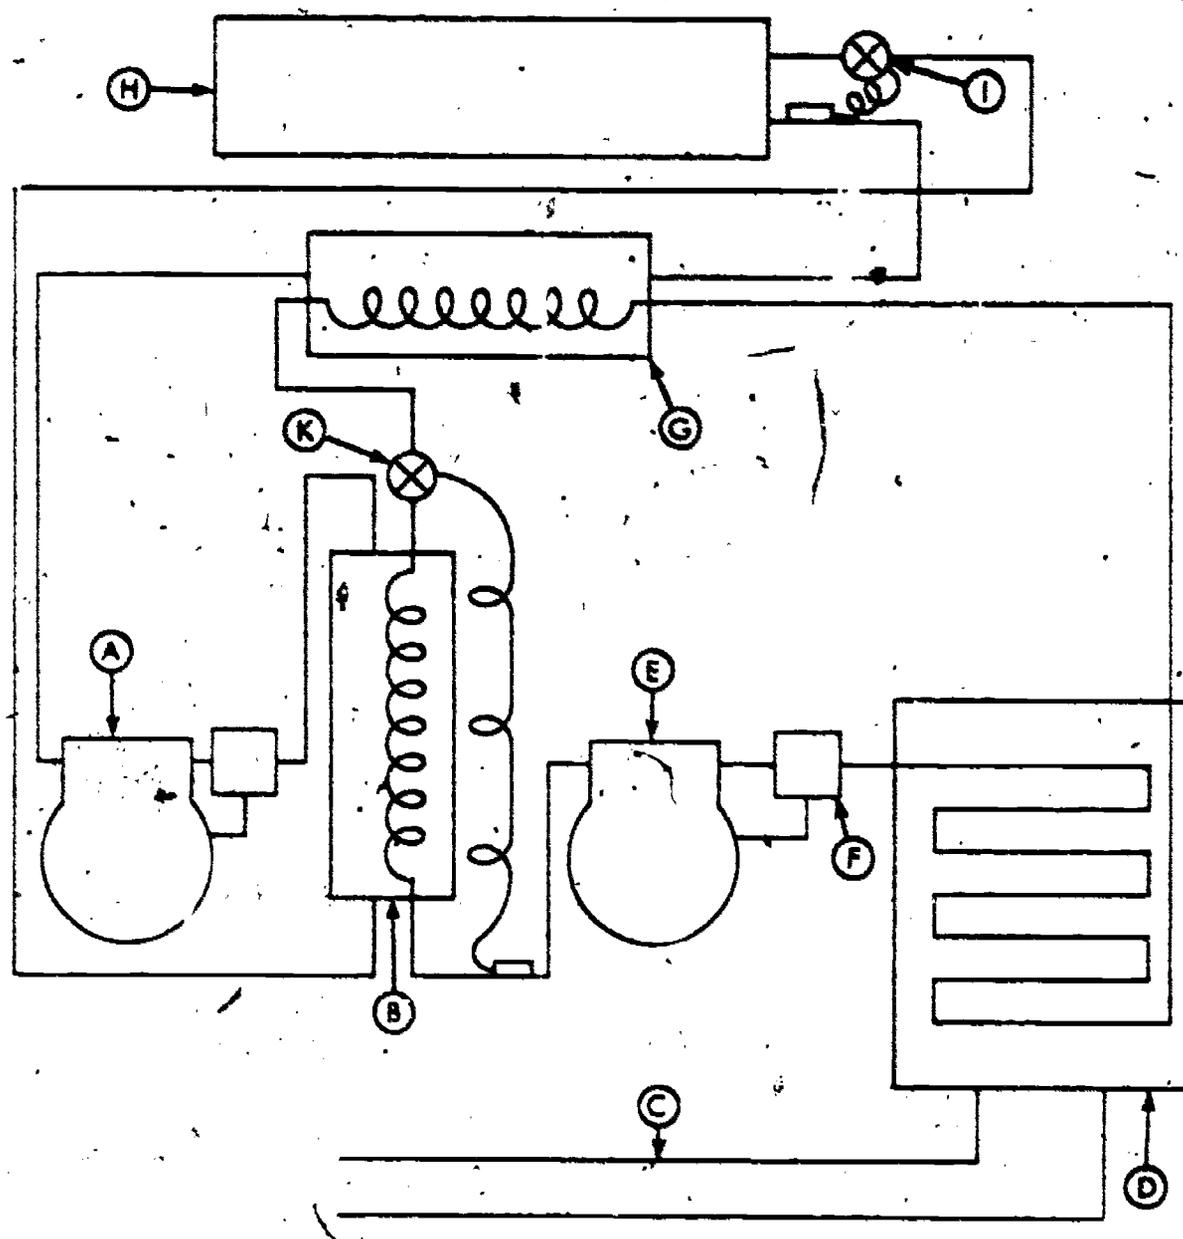

Figure 12. Two-Stage Cascade System
4. Using the two-stage cascade system in figure 12